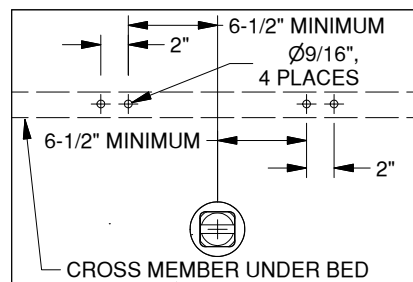
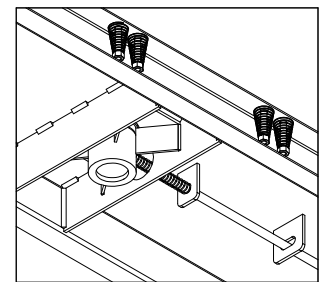

Figure 8
Figure 9
- 5. Install the U-Bolts.** When installing the safety chain loops place them slightly ahead of the socket assembly and a minimum of 6 1/2" from the center of the socket assembly, to each side. (Placing them in the truck bed cross member in front of the socket assembly would be ideal.) Two 9/16" holes on 2" centers will be needed on each side of the socket assembly to install the safety chain loops, see Figure 8. Drop the safety chain loops through each pair of holes. Place a spring and lock nut on each of the four legs. Tighten the lock nuts until they are flush with the bottom of the U-bolt, see Figure 9.